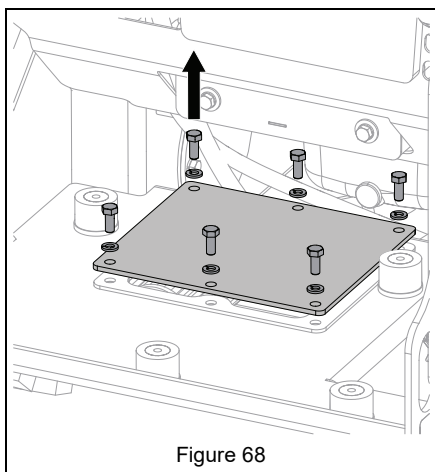

Figure 68
2. Remove hex bolts and washers from fluid tank cover. Set cover aside. See Figure 68.